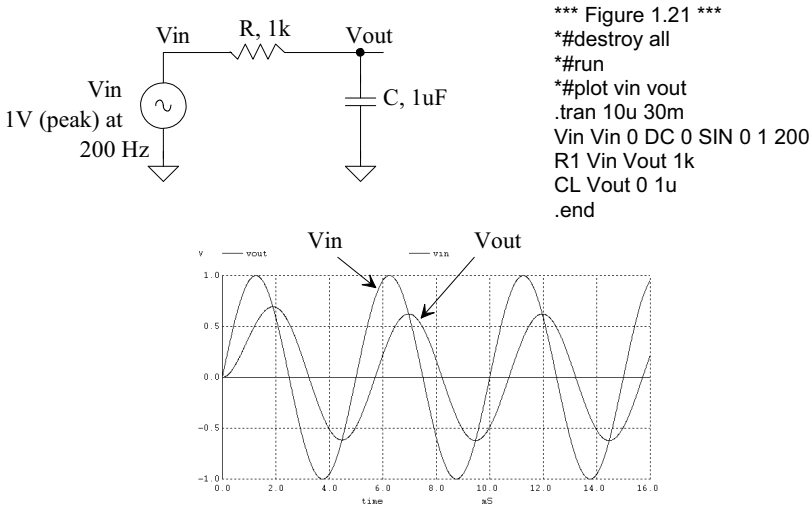

Figure 1.21 Simulating the operation of an RC circuit using a .tran analysis.
To illustrate the use of a .tran simulation let's determine the output of the RC circuit seen in Fig. 1.21 and compare our hand calculations to simulation results. The output voltage can be written in terms of the input voltage by
From the schematic the resistance is 1k, the capacitance is 1 μF, and the frequency is 200 Hz. Plugging these numbers into Eqs. (1.1) – (1.3) gives $\left| \frac{V_{out}}{V_{in}} \right| = 0.623$ and $\angle \frac{V_{out}}{V_{in}} = -0.898$ radians or -51.5 degrees. With a 1 V peak input then our output voltage is 623 mV (and as seen in Fig. 1.21, it is). Remembering that phase shift is simply an indication of time delay at a particular frequency,
The way to remember this equation is that the time delay, t_d , is a percentage of the period (T), t_d/T , multiplied by either 2π (radians) or 360 (degrees). For the present example, the time delay is 715 μs (again, see Fig. 1.21). Note that the minus sign indicates that the output is lagging (occurring later in time) the input (the input leads the output).
The dec indicates that the x-axis should be plotted in decades. We could replace dec with lin (linear plot on the x-axis) or oct (octave). The term nd indicates the number of points per decade (say 100), while fstart and fstop indicate the start and stop frequencies (note that fstart cannot be zero, or DC, since this isn't an AC signal). The netlist used to simulate the AC response of the circuit in Fig. 1.21 follows. The simulation output is seen in Fig. 1.23, where we've pointed out the response at 200 Hz (the frequency used in Fig. 1.21 and used for calculations on page 17).